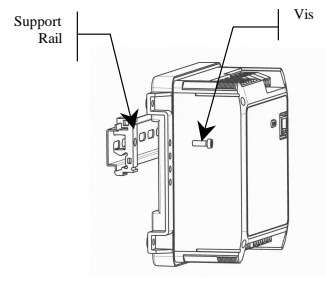

Figure 3
2. Attach the monitor to the two supports with screws (four different heights are possible). (Figure 3)